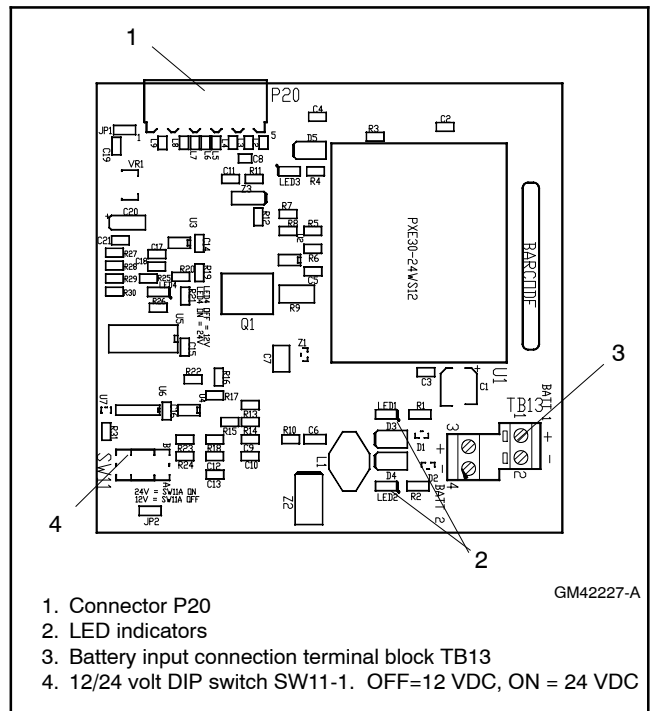

Figure 3-16 External Battery Supply Module
The EBSM produces 2 amps at 12 VDC with 9–36 VDC input. The EBSM input is reverse-polarity protected. The EBSM outputs a low battery voltage signal when the external battery voltage falls below 11 VDC for a 12-volt system or 22 VDC for a 24-volt system. The module is shown in Figure 3-16.
1. Use #14-28 AWG wire to connect one or two batteries to terminal block TB13. (A second battery can be connected but is not required.) Follow the marking on the board for the positive (+) and negative (-) connections. See Figure 3-16 and Figure 3-17.
Note: If the battery connections are reversed, red LED1 or LED2 will light. See Figure 3-16.
2. Set voltage selector switch SW11-1 to 12 or 24VDC. See Figure 3-16 and Figure 3-17. Switch SW11-2 is not used.